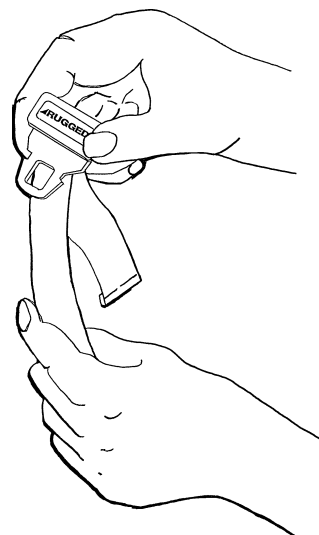

Figure 18 – Lengthening the Safety Restraint
- To lengthen the restraint, grasp the buckle tang, turn it at an angle to the webbing, then pull it out (Figure 18). A hemmed tab at the end of the webbing prevents the tang from coming off the strap.